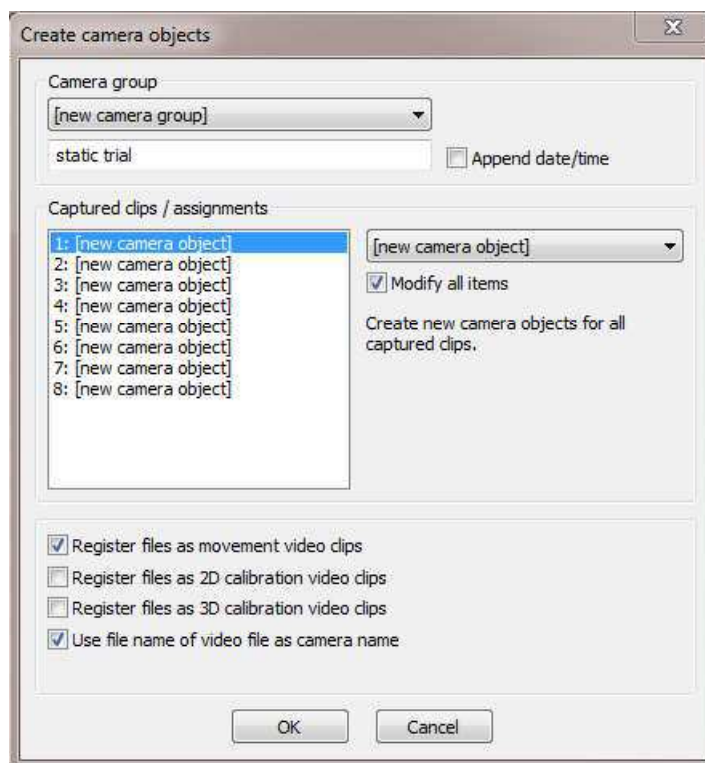

Figure 17.28: Saving captured videos in a new camera group as Movement videos
- Choose *Movement video* for the saving options (cf. figure 17.28)